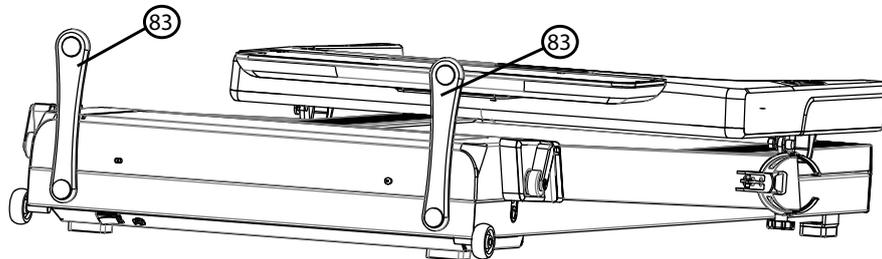

Figure 1
1. Fold the folding bracket frames (83) outwards (figure 1).